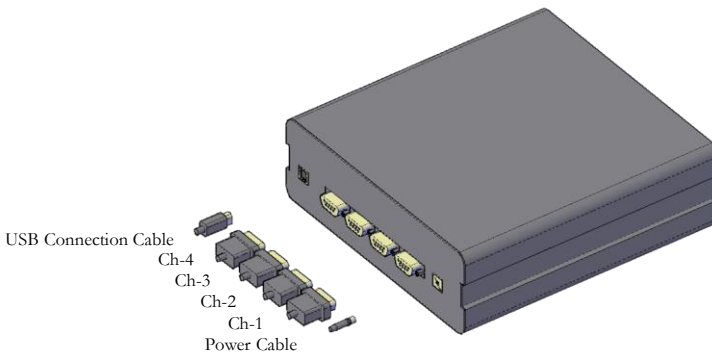

Figure 8: Connecting the sample holder and the USB cable to the measuring device
Step 2: Follow the instructions in Fig. 8 to connect the other end of the cable to any of the channels on the back of the surf device.